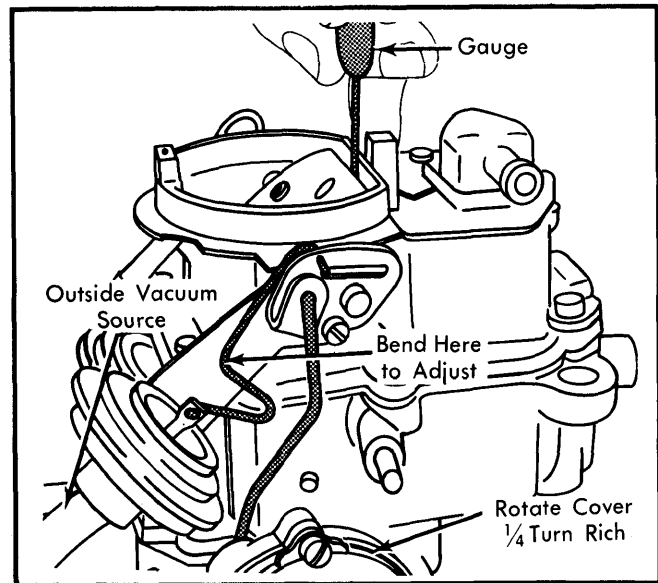

Fig. 6 Adjusting Choke Diaphragm (Initial Choke Valve Clearance)
- 2) Open throttle valve slightly to place fast idle screw on high step of cam. See Fig. 6.